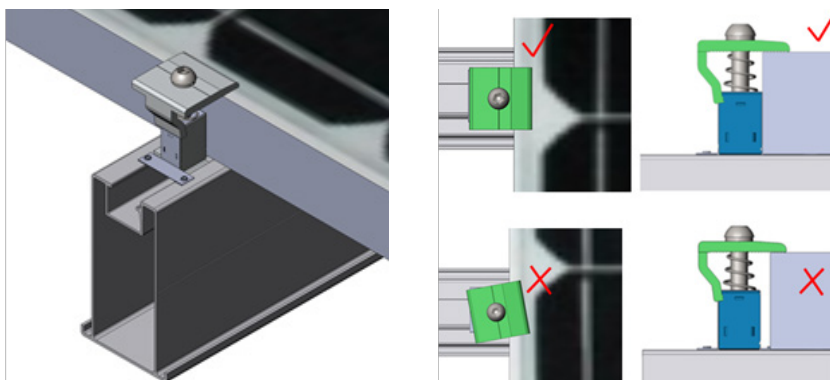

Fig.29
Step 3 Place the first PV Module on the T Rails and position the Universal Clamp as an End Clamp to fix it and then fasten lightly with Allen Key. Make sure the frame of the PV Module is fully in contact with the Universal Clamp as shown in Fig.29. Visually check the Universal Clamp and PV module are correctly installed.